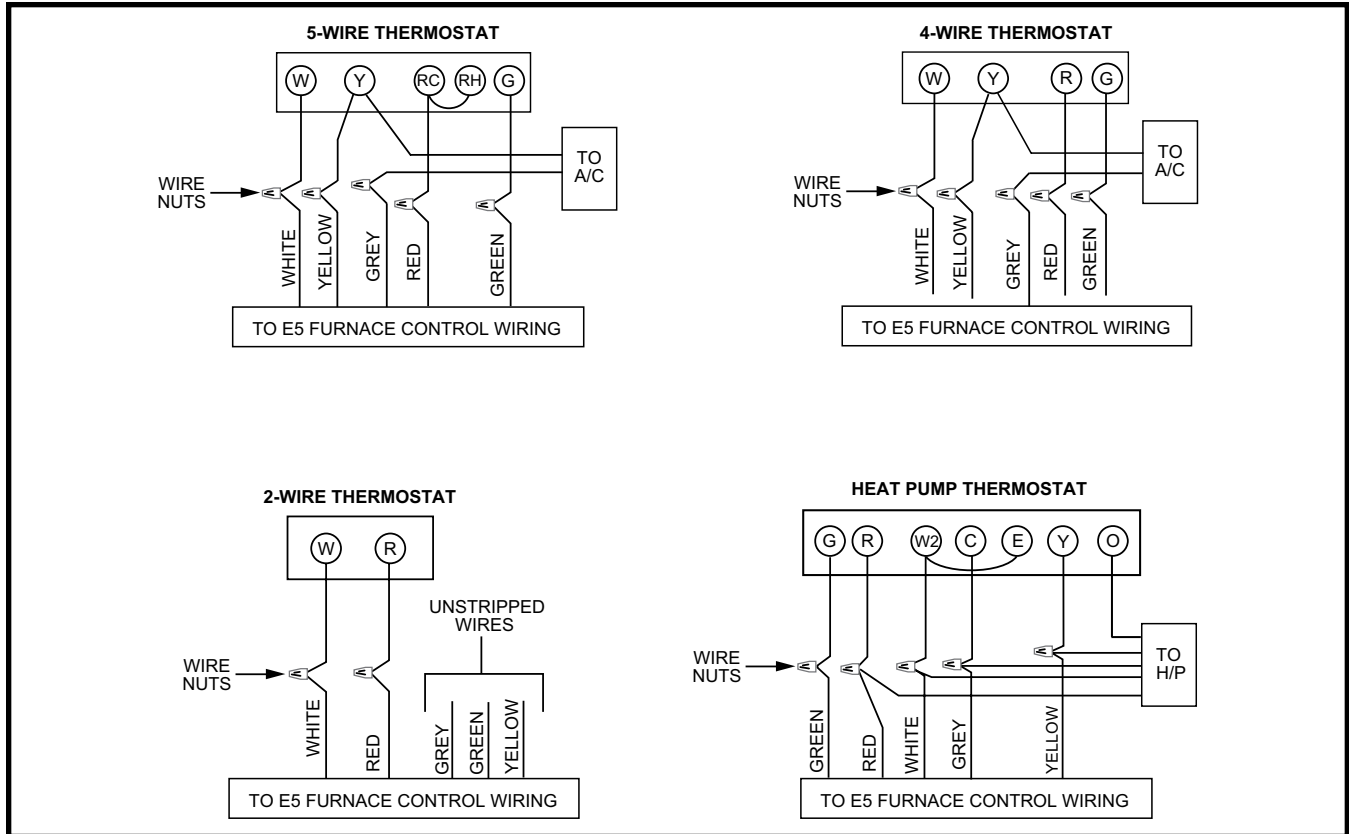

Figure 22. E5 Thermostat Connection
- The thermostat should be mounted about 5 feet above the floor on an inside wall. DO NOT install the thermostat on an outside wall or any other location where its operation may be adversely affected by radiant heat from fireplaces, sunlight, or lighting fixtures, and convective heat from warm air registers or electrical appliances. Refer to the thermostat manufacturer's instruction sheet for detailed mounting information. See Figure 22 (page 18) for typical thermostat connections.
NOTE: Installation of a five-wire thermostat circuit is recommended to for future addition of a heat/cool thermostat. See Figure 22 \(page 18\) for various E5 thermostat connections.